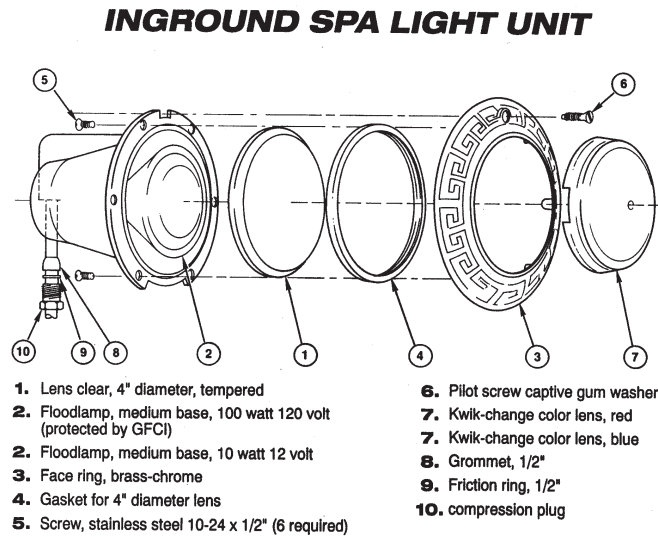

Figure 10. Light Mounting Steps
6. Wrap light cord slack around back of light housing and attach light to niche with mounting screw. (See **Figure 10**)